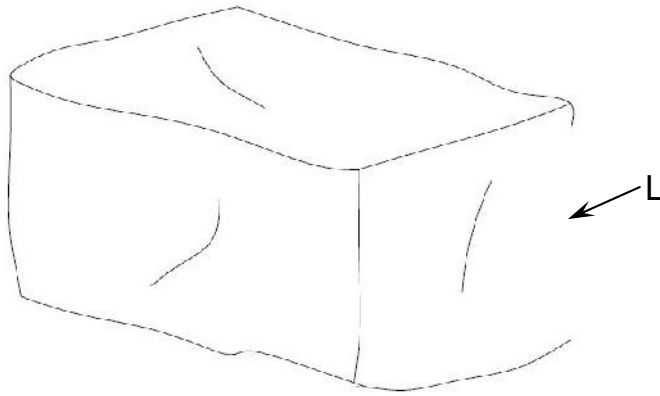

Figure 10
11. Cover the fire pit with the Weather cover (L) when not in use to protect it from the elements or when fire pit is cool COMPLETELY after the use, see Figure 10.